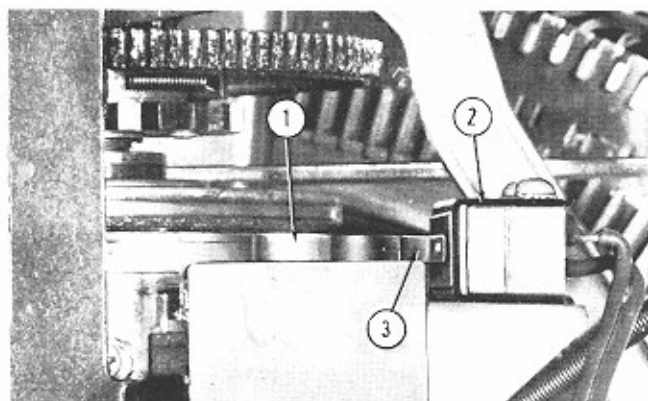

Fig. 61. RESET SWITCH ADJUSTMENT
g. Reset Switch Adjustment. (Fig. 61)
(1) Adjust the reset switch on its mounting bracket to provide $1/32''$ to $1/16''$ over-travel of its arm when the switch is actuated by the cam lobe (See Fig. 61).
(2) Also check the amount of over-travel when the switch arm is released by the cam lobe. The over-travel should be about equal in both positions.